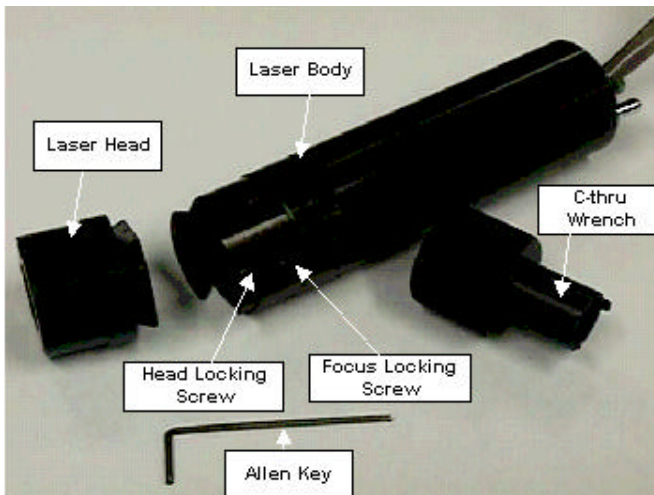

Figure 3.9 - Laser with Laser Focussing Equipment.
4. If the laser is not lined up, loosen the 'Laser Fastener Screw' (see Fig. 3.9) with a 2.5-mm, allen wrench. Rotate the laser until the images align as (see the above diagrams). Then retighten the clamp.